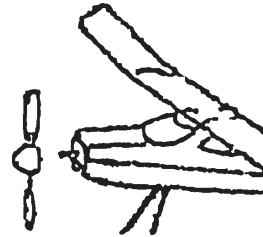

Figure 4 - Propeller to Motor
5. Plug the Propeller Spinner set on the Motor. Make certain that the Propeller fits tightly on the Motor Shaft-see Figure 4.